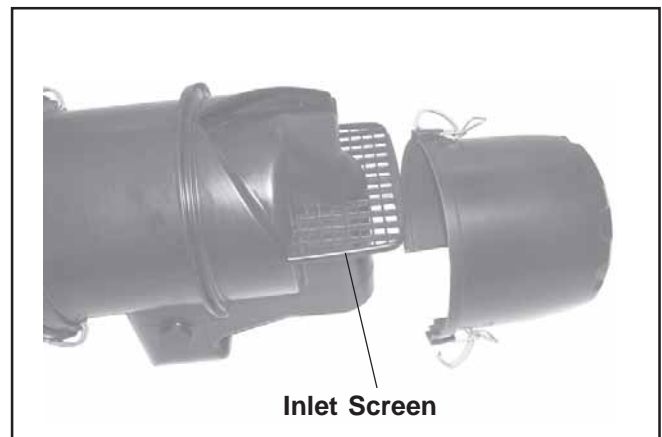

Figure 20. Accessing Inlet Screen.
2. Check and clean the screen area on the inlet side. Pull the air cleaner paper element out of the housing on opposite side. See Figures 20 and 21.